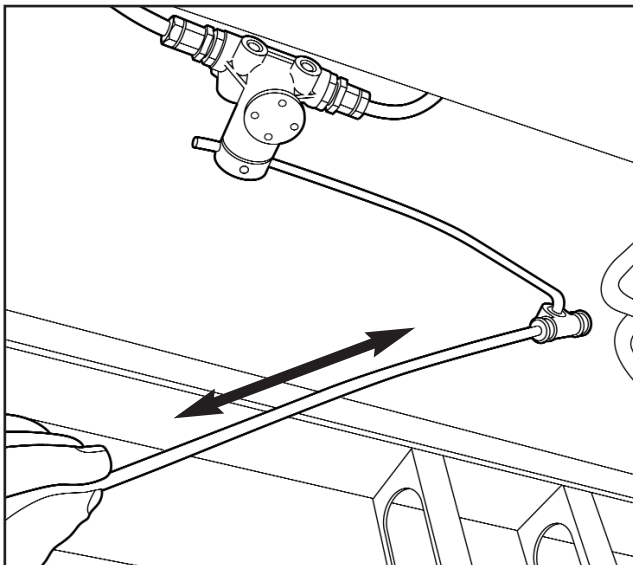

Fig 4.1
- 1 Expel all air from the system (Fig 4.1).